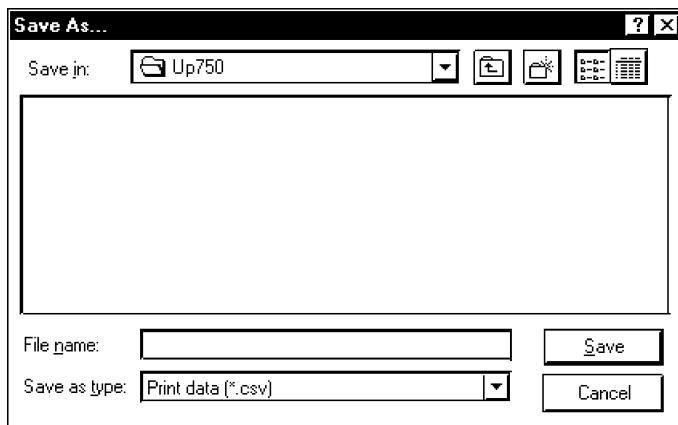

Figure 13.3.1 Save As Dialog Box (Example of UP750)
- (2) Click **Output to a File**. The Save As dialog box (Figure 13.3.1) opens.
- (3) In the **File name** text box, type a file name (up to 16 alphanumeric characters) then click **Save**.